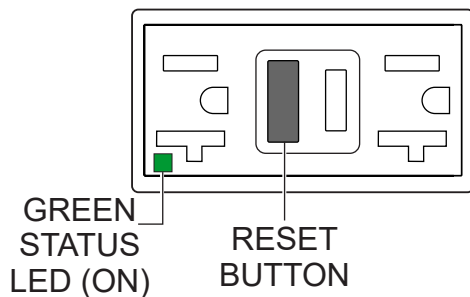

Figure 59. GFCI Receptacle (ON/Restore)
5. Press the **RESET** button (Figure 59) to restore power to the GFCI receptacle and verify that the status LED is **ON (GREEN)**.